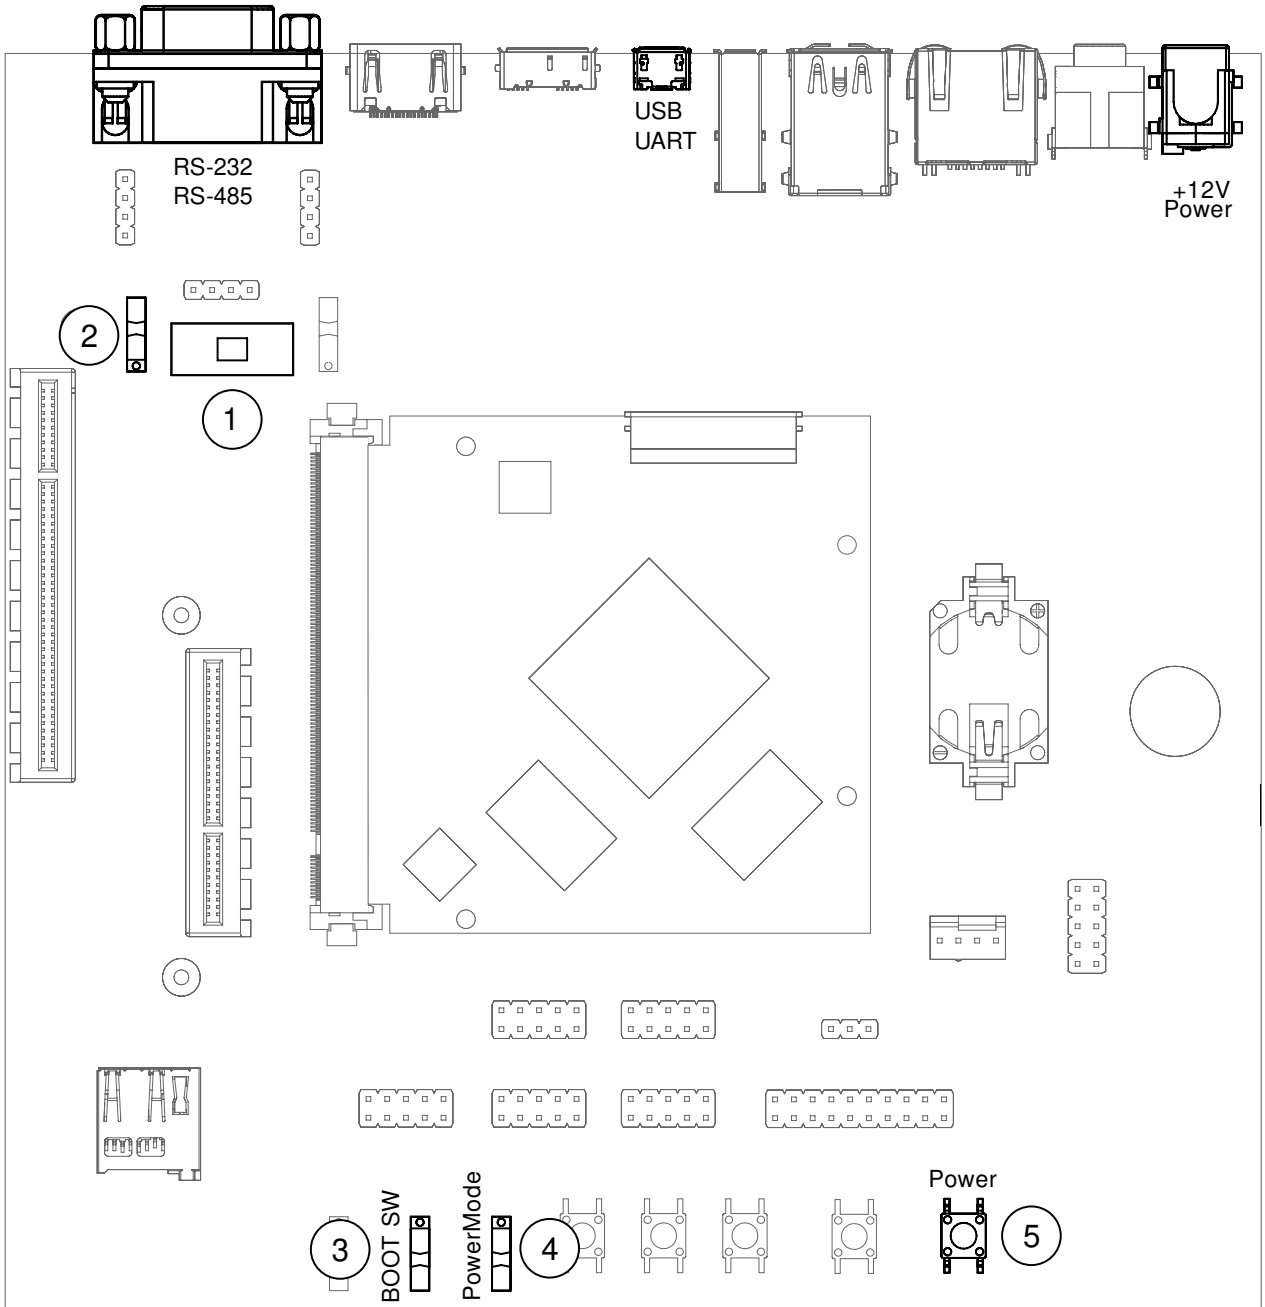

Fig. 2.3: Serial console and boot configuration
For bootloader configuration and Linux console, the serial interface can be used. Connect either a Micro-USB or RS-232 cable to the corresponding port. Select the correct UART with UART selector slider (1). For Micro-USB, the slider has to be in the right position to route the default console (UART0) to the USB-UART bridge. For RS-232, the slider has to be in the left position and the protocol slider (2) has to be in the RS-232 position (see Fig. 2.3 Serial console and boot configuration).